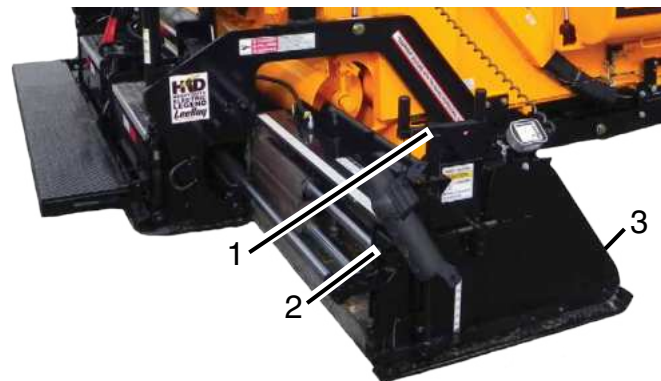

Figure 4-45. Screed, Flight Screw and Endgate (HD815 Screed Shown)
The main screed and screed extensions are heated by heating elements and equipped with replaceable, heavy-duty wear plates. Use the screed extensions when paving widths exceeding eight (8) feet. **(Figure 4-45)** The screed extensions should be heated before making any adjustments using the wrench provided.
5. On the first pass, turn the endgate depth screw to lower the endgate until it is about 1/4-inch (6.35 mm) below the screed. (Figure 4-45)